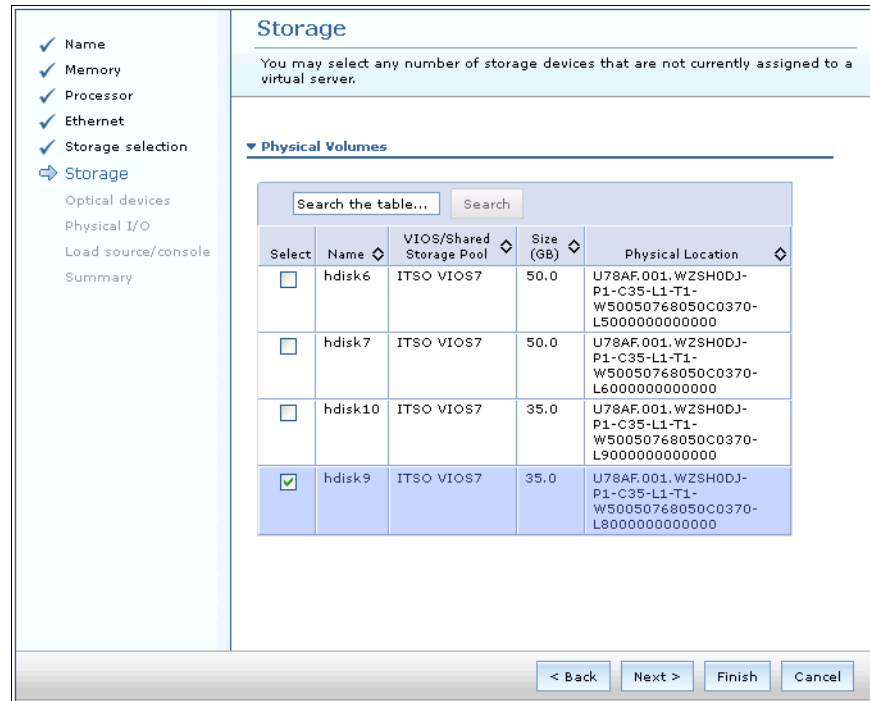

Figure 11-8 Creating a Virtual Server: Storage selecting physical disks panel
- As shown in Figure 11-8, in the Storage page, select the hdisks that you want the IBM i client to use and click **Next**.